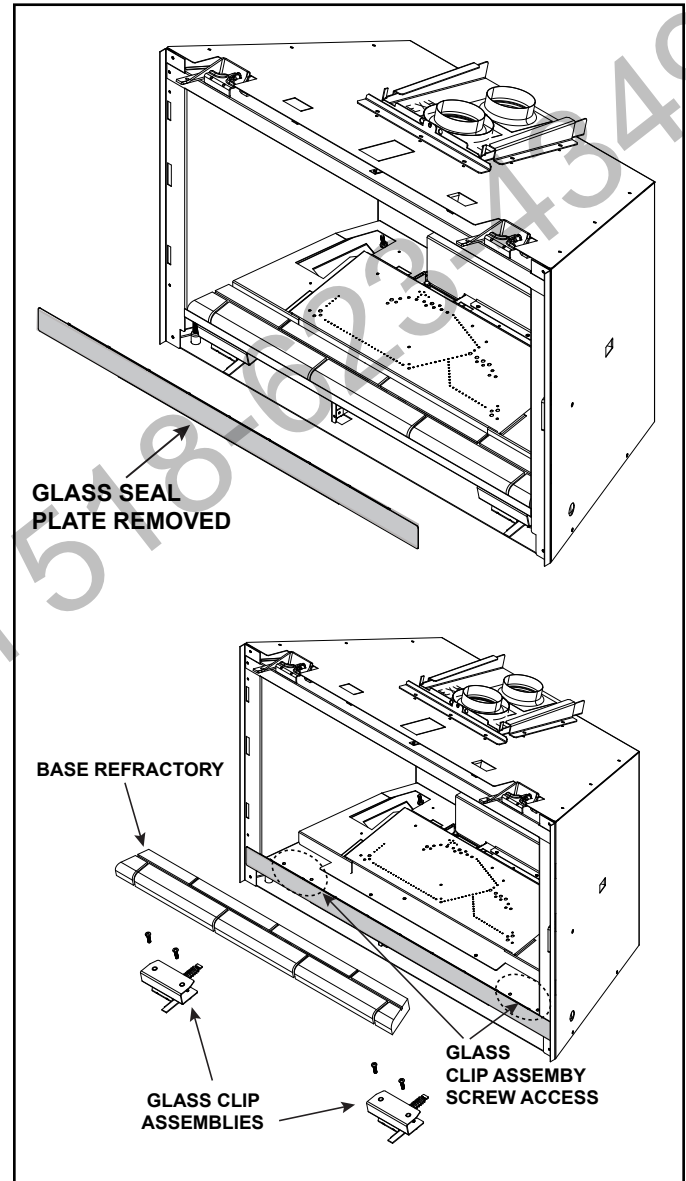

Figure 1 Glass Seal Plate installed with Glass Clip Assemblies Removed.
3. Remove glass seal plate. See Figure 1.
5. For easier access to components the bottom glass clip assemblies can be removed. See Figure 1.
30. Reinstall the bottom glass clip assemblies if removed. See Figure 1.
33. Reinstall the glass seal plate. See Figure 1.